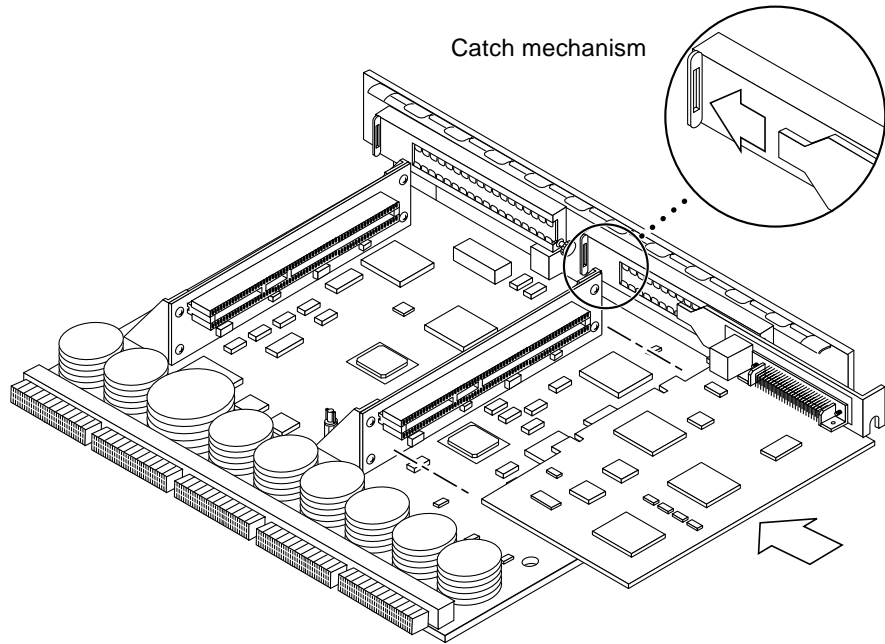

FIGURE 4-29 PCI Card Installation/Replacement
3. Align the PCI card so that the PCI bus connector mates with the PCI+ I/O board PCI bus connector, making sure that the external connector end of the card is retained on one side by the opening in the metal catch mechanism and the opposite end is properly aligned to accept the locking thumbscrew (FIGURE 4-29).